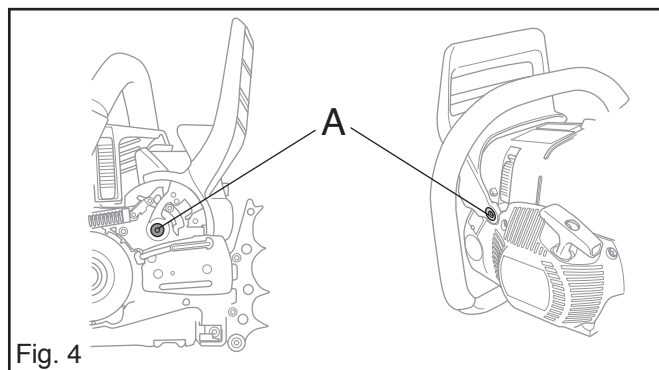

Fig. 4
7. Remove the hand guard, two screws (A). Note the sleeve on the starter side. See fig. 4.